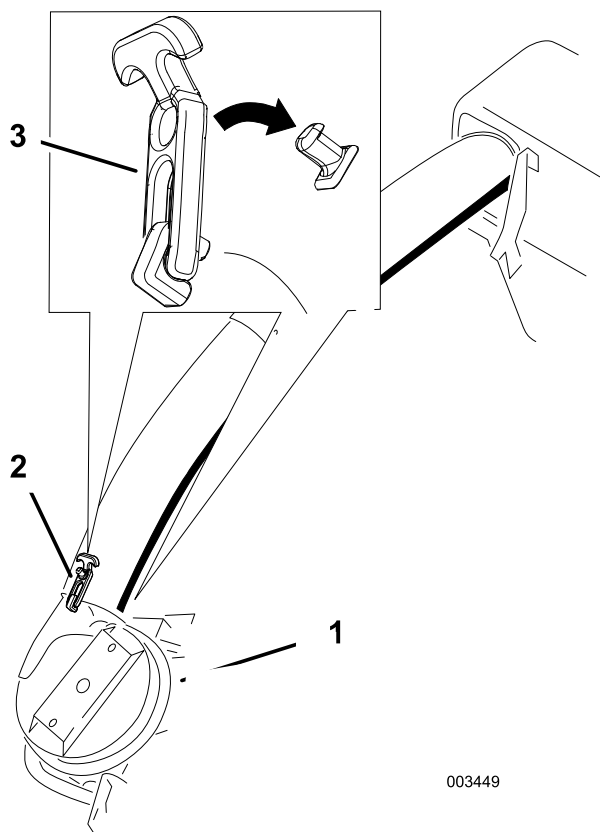

Figure 51
8. Slide the lower tube onto the blower housing and latch them together (Figure 51).